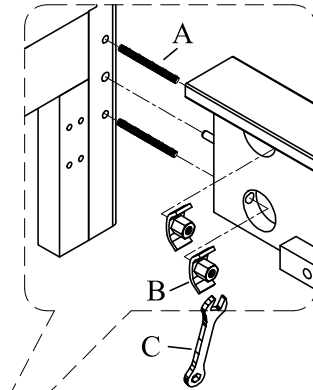

Figure 1
- STEP 1. Screw the bolts (A) into the two threaded holes that are at the bottom of the posts of both the headboard and the footboard. Slide the bed rail onto the two bolts (A) on one of the bed posts until the bolts (A) are visible through the holes on the inside of the bed rail. See Figure 1.
- STEP 2. Slide a curved washer nut (B) onto the bolts (A) through the holes in the bed rail. Tighten all curved washer nuts (B) by the spanner wrench (C). See Figure 1.